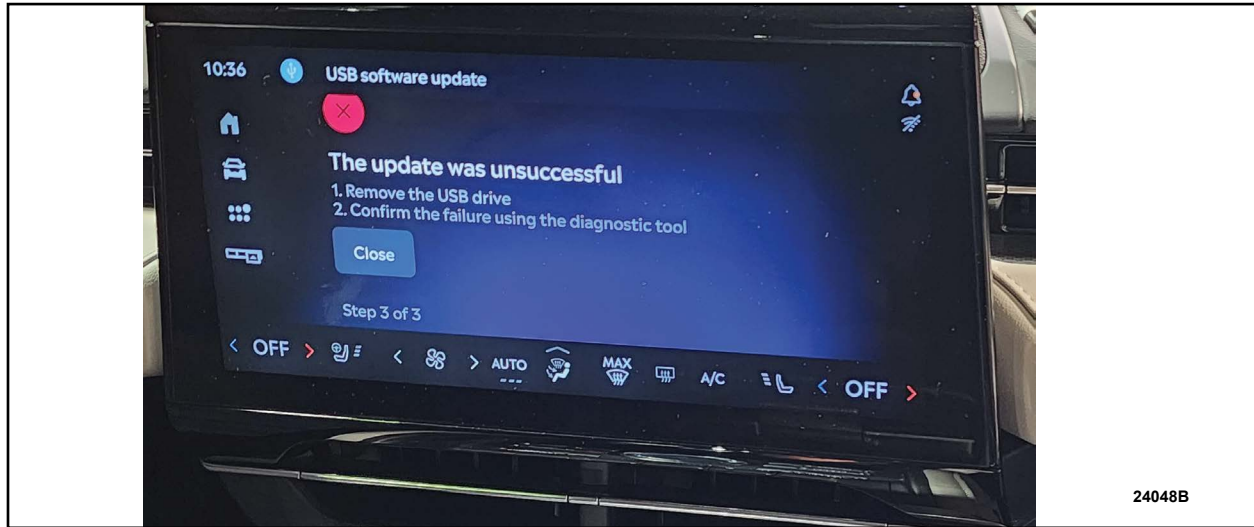

FIGURE 2
11. When the USB is removed from the vehicle an error screen may show. **Make sure to continue with the Field Service Action (FSA).** See Figure 2.